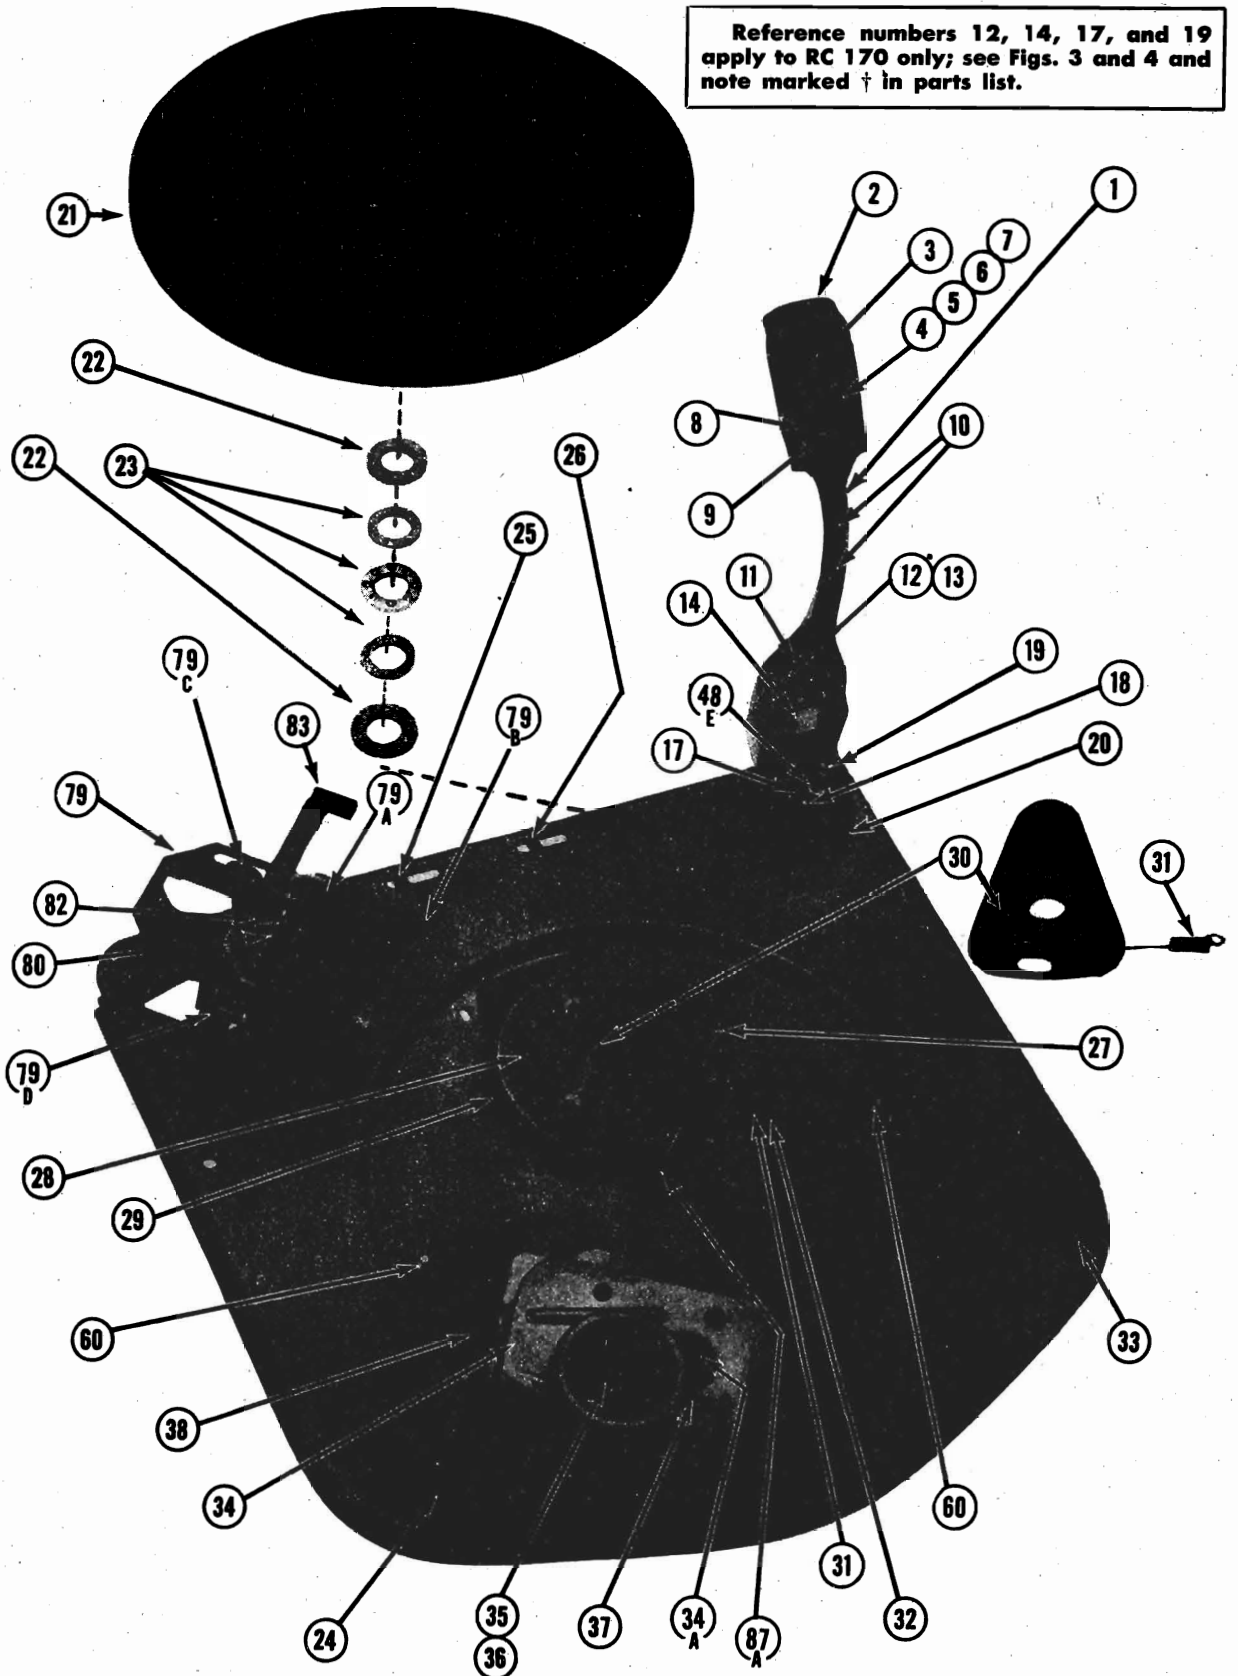

Figure 8. Top View of Record Changer
The changer operates as follows: The changer mechanism is driven during its change cycle by the knurled hub of the turntable rotating the rubber-tired drive wheel (28). During normal playing, the drive wheel is held in a neutral position as illustrated in Fig. 8 so that the indentation prevents the tire from contacting the knurled hub. The drive wheel (28) is held in this position by the trip lever (63) and the stop stud (65) on the main cam (66).
When a record has finished playing and the needle has reached the trip point, the arm control lever roller (48C, Fig. 7) makes contact with reject link (43A), moving the trip arm (43) which releases trip lever (63). The trip lever spring (62) moves trip lever (63) freeing cam stop stud (65) and allows spring (69) to pull the main cam clockwise (bottom view). Since the main cam (66) and the drive wheel (28, Fig. 8) are on the same shaft, the drive wheel is thus turned so its rubber tire is against the knurled hub of the turntable. The turntable now rotates the drive wheel (28) which in turn rotates the main cam (66). Roller (68), Fig. 7) riding on the main cam, moves arm control slide (52), and the raised portion (52A) of this slide raises arm lift shaft (This shaft is 19 on the RC170 and 103 on the RC170A.) which lifts pickup arm from the record. Stud (52C) moving with slide (52) pushes arm control lever (48A) causing the pickup arm to move to the right, clearing the record. The movement of roller (68) also causes trip lever (63) to re-engage in the recess of trip arm (43). Trip spring (61) holds the trip arm (43) and trip lever (63) together.
push-off plate 79A, Fig. 8. (Note that the record stack rests on plate 79A.) The shape of the main cam (66) is such that the push-off plate (79A) first moves back, allowing the bottom record to drop onto the record support plate (79B). Then the push-off plate (79A) slides forward and drops the next record to be played but only after the pickup arm has cleared the record stack. The little slide in the top end of the center post holds back all records other than the bottom one.
Adjust the 12-inch set-down with screw (25), Fig. 8. Turning screw (25) in (as seen through the left hand slot) moves the set-down point for 12-inch records further from the center post and turning the screw out moves it closer to the center post. The proper set-down point is between $5\frac{5}{8}$ " and $5\frac{11}{16}$ " from the needle to the near side of the center post.
The adjustment of the head assembly (79) is made by loosening the three screws, 85. (underneath the changer) and moving the assembly closer or further away from the center post as the case may be. The head assembly is in proper relationship to the center post when it is set with a dimension of $4\frac{7}{8}$ " from the front edge of the record support plate (79B, Fig. 8) to the rear of the center post (side nearest the record support plate) and at a point on the center post of the same height as the record support plate. This dimension is taken with the changer set to play 10-inch records.